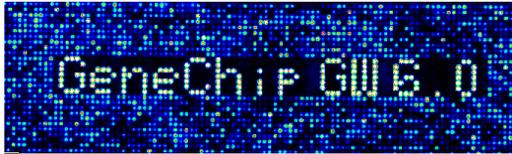

Figure 7.6 Array name (image has been rotated for display)
- The array name, located in the lower left corner of the array (Figure 7.6 on page 268)